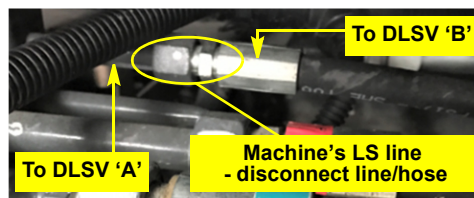

Figure 4d: LS line for DLSV connection
b. Locate the machine's load sense (steel) line to (rubber) hose connection under the cab on the right side of the machine, forward of the rear wheel (Figures 4b and 4c): disconnect the line/hose (Figure 4d).